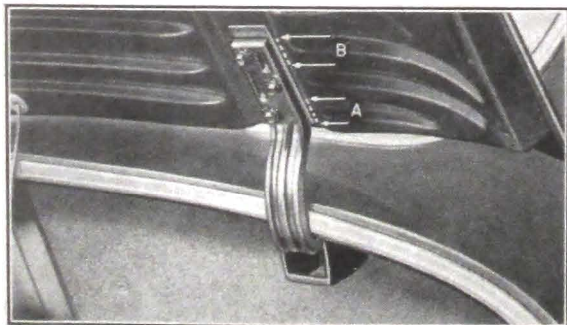

Fig. 1-121. Showing where shims may be placed for adjusting compartment lid hinges.
- or both hinges, as shown in Fig. 1-121 at "A,"